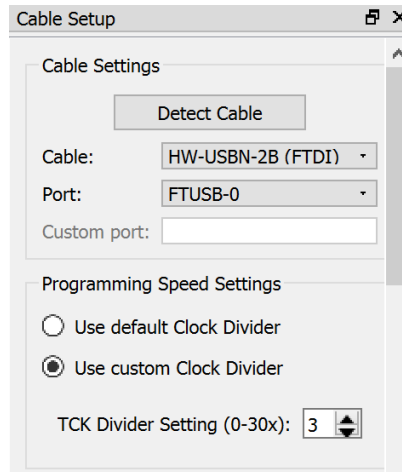

Figure 7.1. TCK Frequency Setting
- If you get a verification error while dumping the .bit file, try changing the TCK frequency to a value greater than 4. The TCK Divider Setting option is in the Cable Setup dialog box of the Lattice Radiant Programmer Window, as shown in Figure 7.1. Restart programming by clicking the Program button.